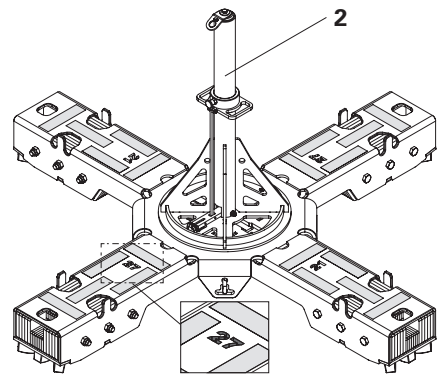

Fig. B3.02
- For SKY-Anchor 27 mm (2), use the SKY-Anchor 27 mm support. (Fig. B3.02)